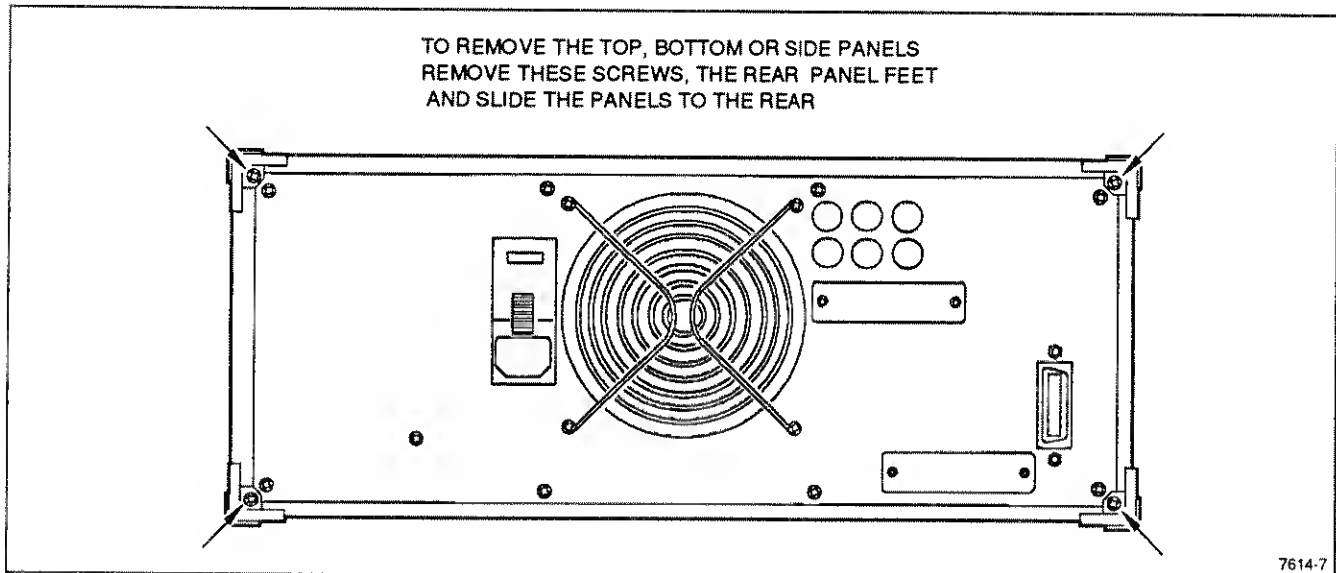

Fig. 5-1. Cabinet panel removal.
1. Remove the four screws attaching the four feet to the rear panel of the instrument. See Figure 5-1.